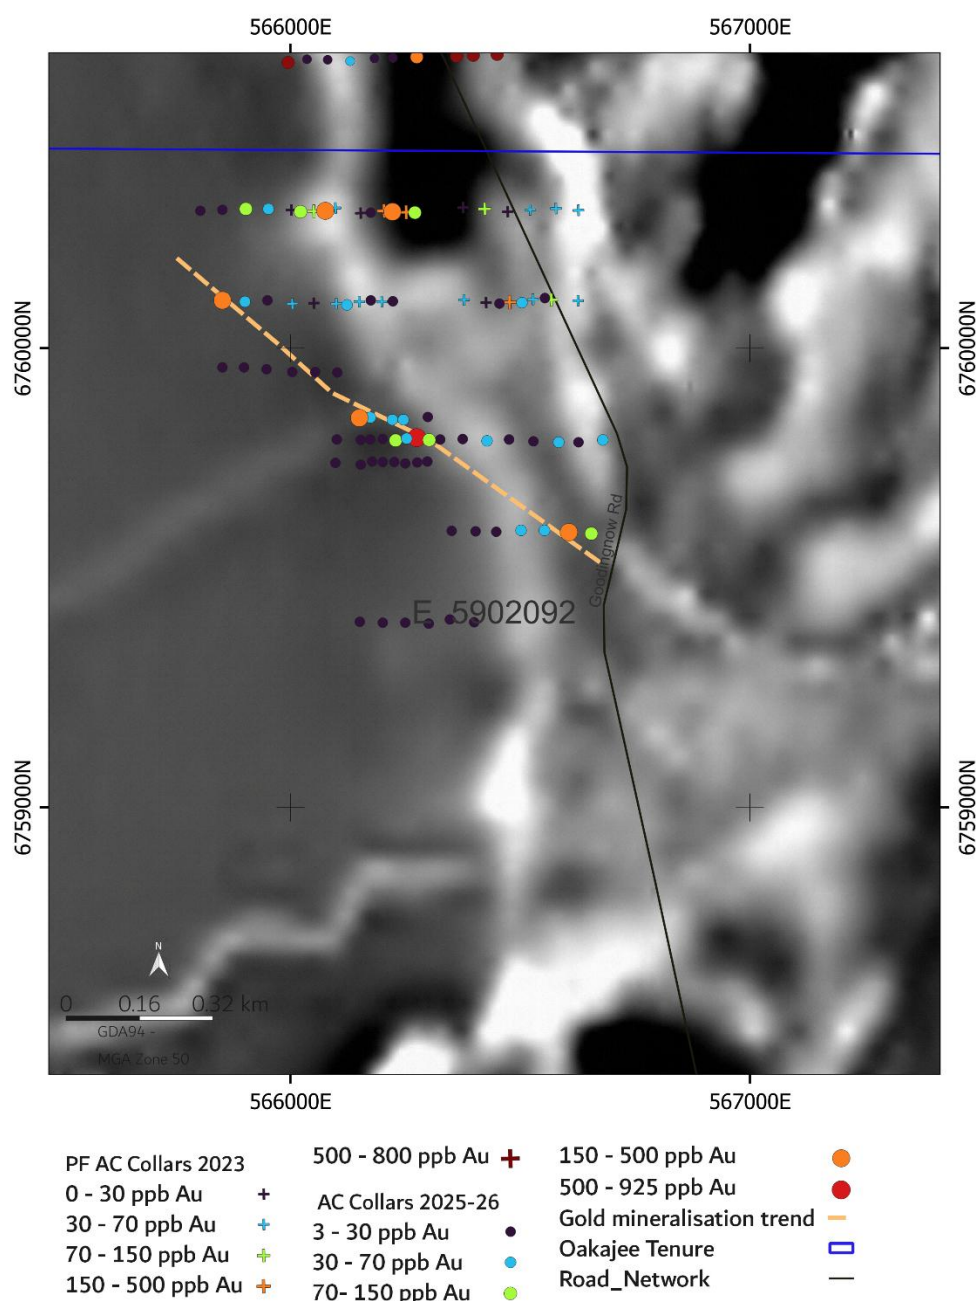

Figure 2 – AC drill-hole collars coloured by maximum gold results over magnetic Image-tmirtp1vd.
Oakajee Corporation Ltd (“**Oakajee**” or “**the Company**”) is pleased to advise that assay results of the Aircore (AC) drilling completed in August 2026 at the Paynes Find Gold Project in Western Australia have been received. A total of 38 drill holes were completed to follow up and extend previously intersected gold mineralisation at the Paynes Find South target (ASX Announcements 19 February 2024 and 6 October 2025). The program has revealed a gold mineralised zone trending NNW for 1,000m strike. This zone is along a NNW trending magnetic structure concealed beneath about 20m of lake clay and laterite gravel. The mineralisation is currently open along strike to the NW and SE (Figures 2).
A total of 38 drill holes (Table 2) were completed for 1,928m to follow up previous AC drilling that intersected anomalous gold (Figure 2).